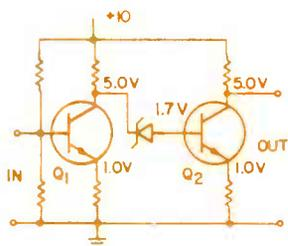

Fig. 6. Zener diode used as dc level shifter in direct-coupled amplifier.
exists. An unusual example is shown in Fig. 6. Here a Zener is used to couple signals from the collector of one amplifier stage to the base of a second stage, while preserving a fixed voltage drop between the two transistors, so that each transistor receives the proper bias voltage. Since the voltage difference between the collector of Q_1 and the base of Q_2 is 3.3 volts, you know the Zener is rated at 3.3 volts.
4. The amplifier shown in Fig. 6 would be suitable for use only at very low audio frequencies, since the Zener diode can not respond quickly enough to handle high-frequency signals.